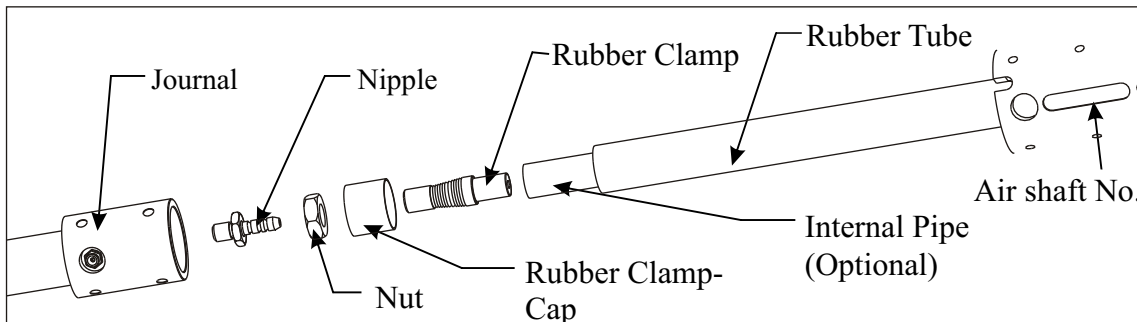

Figure 9: Loosening the Nut and removing clamp from bladder.
8. If you see the problem in rubber bladder, dis-assemble the bladder from clamp as shown in figure 9. Loosen the nut, then remove the end cap.